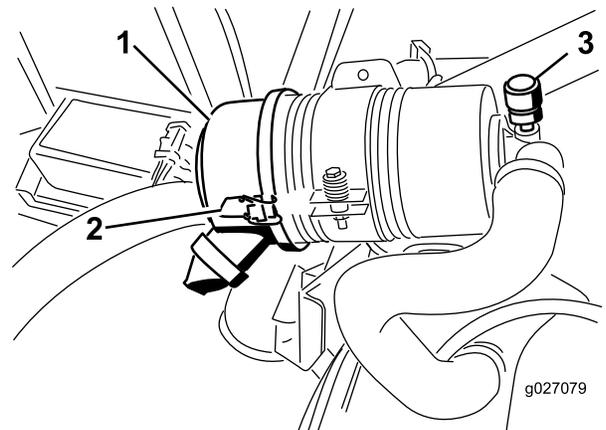

Figure 52
Service the air-cleaner filter only when the service indicator requires it (Figure 52). Changing the air filter before it is necessary only increases the chance of dirt entering the engine when you remove the filter.
2. Release the latches securing the air-cleaner cover to the air-cleaner body (Figure 52).